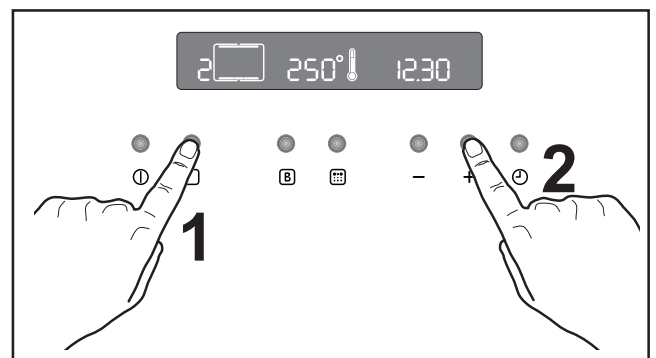

Fig. 3
3. press button  twice and select the "Conventional Cooking" function  (Fig. 3).